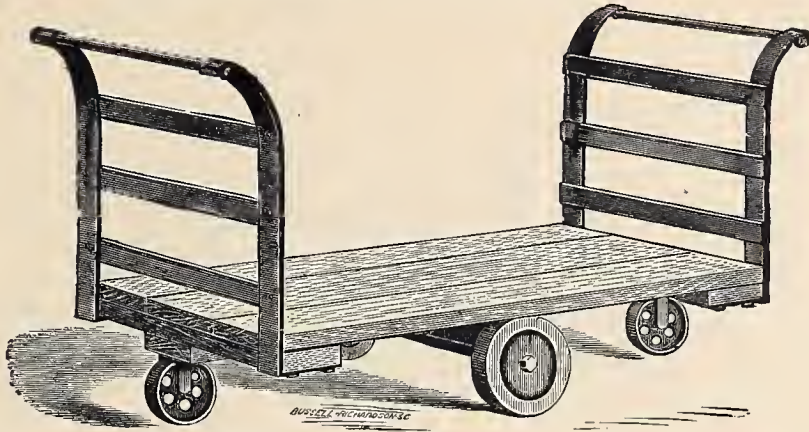

Fig. 511. — Patent Caster-Wheel Platform-Truck.
*The Patent Caster-Wheel Platform-Truck* is represented by *Fig. 511*. The invention is in attaching the swivel-wheels to the ends of the platform; and by this means, the truck, when loaded, can be easily and quickly turned upon its own centre.